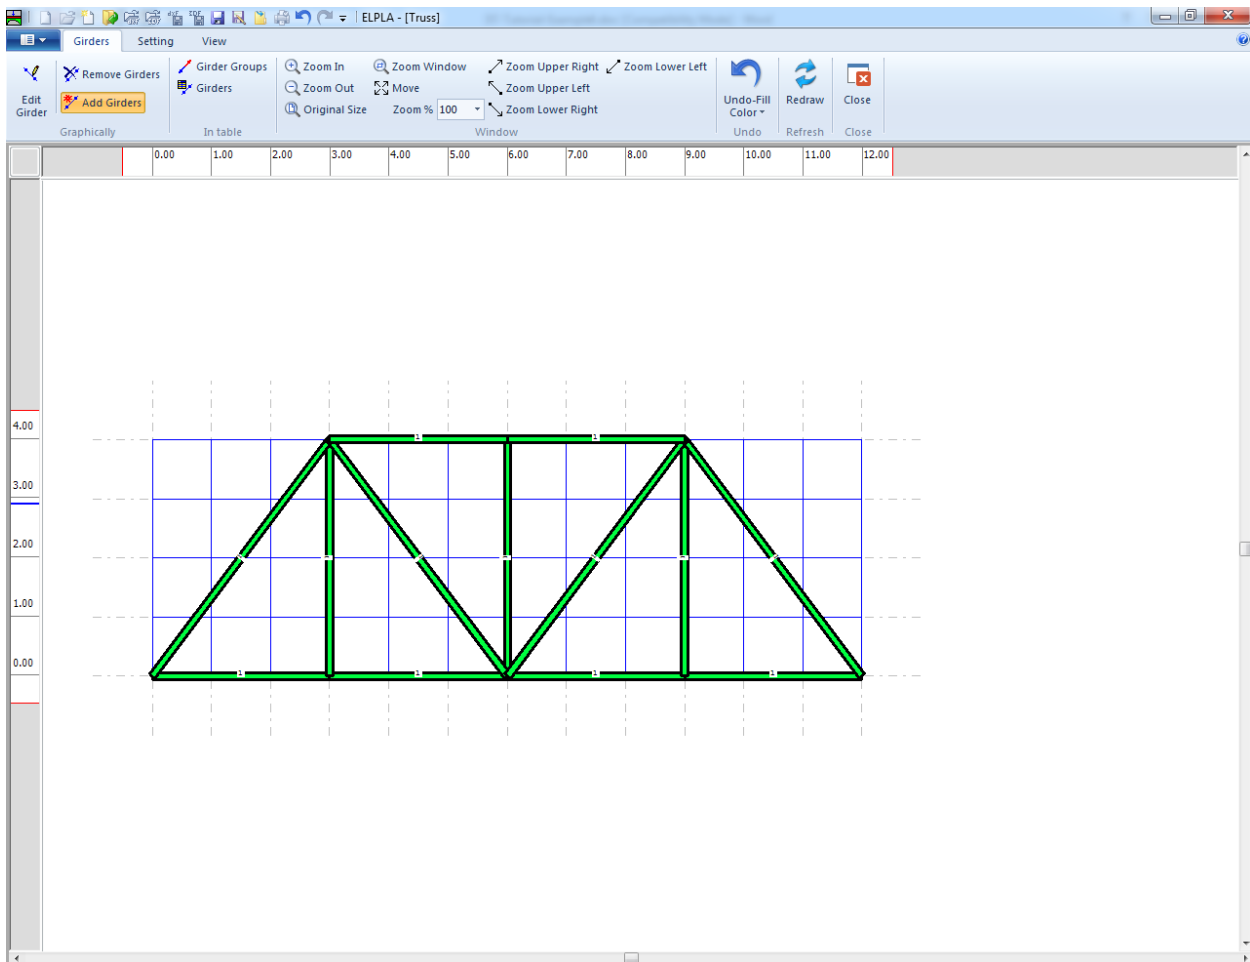

Figure 6.17 Girders
Repeat the previous steps to add the remaining girders on the net. After you have completed the definition of all girders, the screen should look like the following Figure 6.17.
- Choose "Save" command from "File" menu in Figure 6.17 to save the data of girders
- Choose "Close" command from "File" menu in Figure 6.17 to close the "Girders" Window and return to *ELPLA* main window.